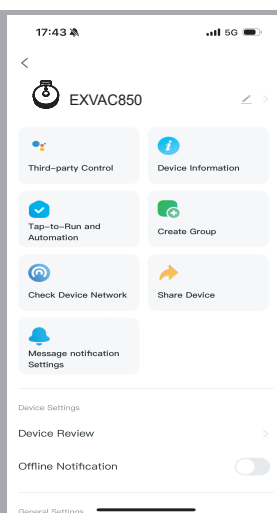

Fig. 19
F). Click the icon  on the main interface and enter Fig.19, users can perform more about EXVAC850, such as connecting to the third party (Google assistant, Alexa etc), share device or update the firmware, etc.